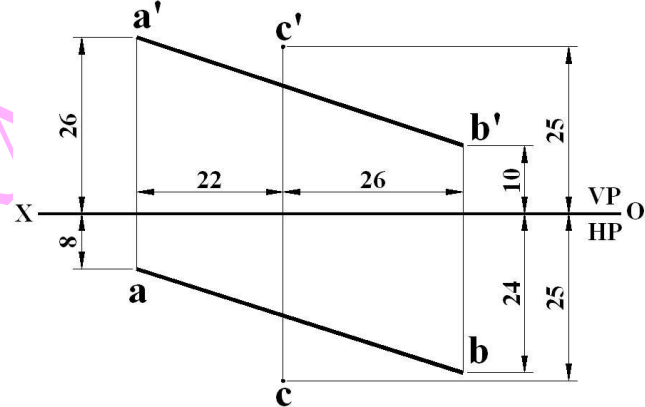

Figure 3.12
12. Determine the shortest distance between the point **C** and the line **AB**, shown in **Figure 3.12**.